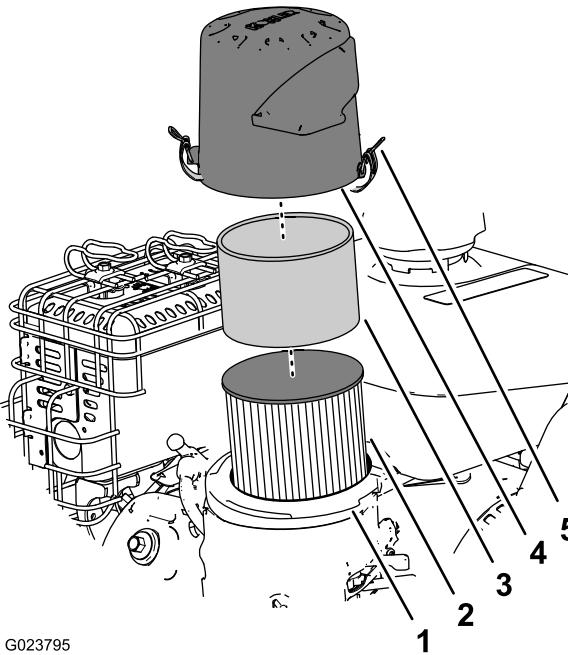

Figure 33
2. Remove the cover and clean it thoroughly (Figure 33).
3. Remove the foam pre-cleaner, wash it with a mild detergent and water, and then blot it dry (Figure 33).
4. Remove and inspect the paper air filter (Figure 33); discard it if it is excessively dirty.
- Install the foam pre-cleaner onto the paper air filter (Figure 33).
- Install the air filter assembly to the air-filter base (Figure 33).